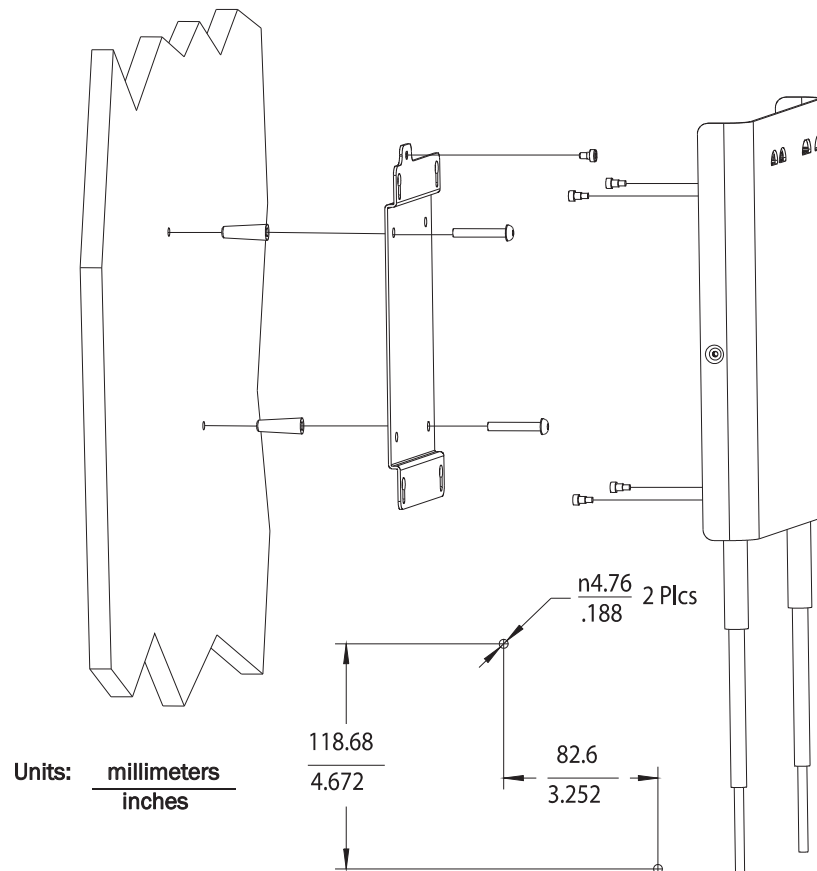

Figure 2-4: Mounting the ITS 1.4 GHz Core AP to a Wall (CA Earthquake Rated)
1. Using a 3/16-inch drill bit, drill two pilot holes .188 inches (5 mm) in diameter at the locations shown in Figure 2-4.
3. Secure the quick release wall plate to the wall by screwing a supplied #6 x 1 1/4 inch self-tapping screw through the wall plate into each screw anchor (or pilot hole) as shown in Figure 2-4.
4. Using a 5/64-inch (2 mm) Allen (i.e., hexagonal) wrench, secure the four supplied M3 X 0.5 hex-head shoulder screws to the back of the Core AP as shown in Figure 2-4. Torque-tighten each shoulder screw to 8-inch lbs.